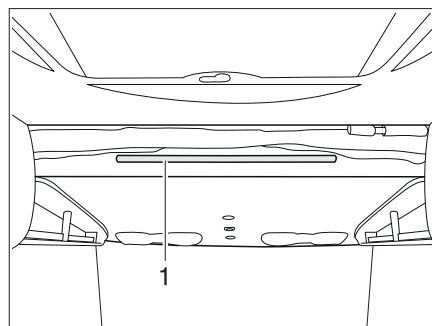

Fig. 161 Electrical pull-down bed
- Hook the access ladder to the pull-down bed by fitting both brackets into the holding bar (Fig. 161,1).